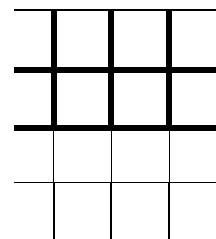

Fig. 4
**8.8.8.** (Figure 4) Before laying the next row of tiles, lay a row of full-sized divider strips against the second row, as was done in step 8.8.5.